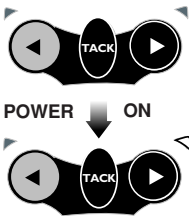

Fig 5.11 - Selecting System mode
- To select **System mode**, press and hold the **TACK** and ▶ keys and turn the power on (Fig 5.11).